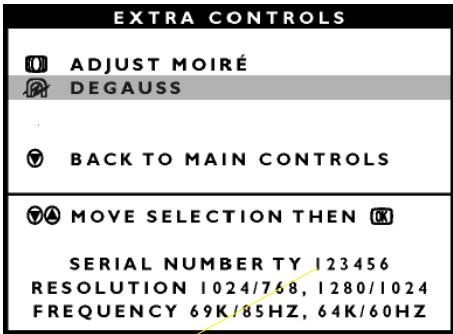

Fig. 18
4. Confirm the Serial Number "123456" is updated as shown in Fig. 18.